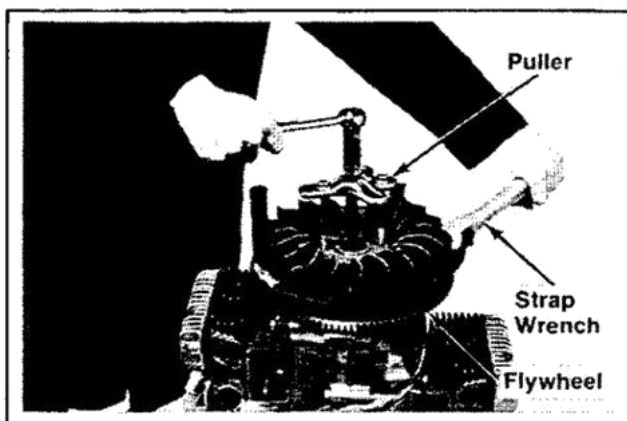

Figure 9-23. Removing Flywheel Using A Puller.
3. Remove the flywheel from crankshaft using a puller (Tool No. NU-3226). Refer to Figure 9-23.